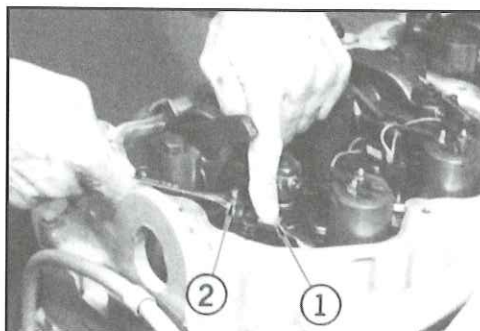

Fig. 8
While pressing straight down on the bridge pad (1), turn the adjusting screw (2) clockwise until contact is made with the valve stem. See Fig. 8.